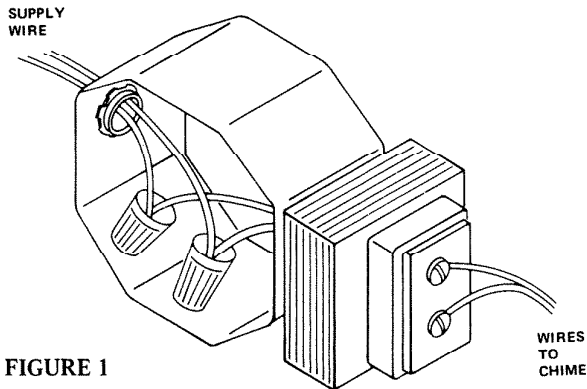

FIGURE 1
1. Mount the supplied transformer (NuTone 105N, 16V – 15VA) to a convenient junction or panel box. Connect the house power leads to the transformer as follows: black to black; white to white. See Figure 1.